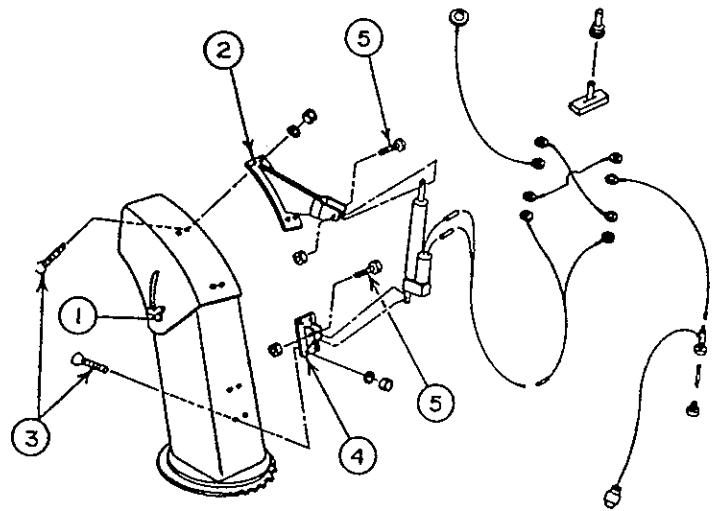

FIGURE 10
- a) Remove the two manual adjustment knobs (fig.10, item 1) and bolts from each side of deflector and replace with two 5/16" x 3/4" carriage bolts, using original nylon washers and two nylon lock nuts, leaving 1/16" play.
- b) Place actuator support bracket (fig.10, item 2) on center of chute deflector, flush with bottom edge of deflector. Using this bracket as a template, drill four 11/32" holes in deflector, and bolt in place with four 5/16" x 3/4" allen flat socket capscrew (fig.10, item 3), lockwashers and nuts, with the capscrew heads inside the chute. Tighten so that capscrew heads sink flush to inside surface of deflector.
- c) Retract actuator rod completely and secure to deflector bracket (fig.10, item 1) and chute bracket (fig.10, item 4) which will be installed in section d next, using two 1/4" x 1 1/4" bolts (fig.10, item 5) and nylon lock nuts. Secure loosely to permit movement.
- d) Open deflector to maximum so that actuator rod retracts completely. Place attachment bracket (fig.10, item 4) on the center rear of chute and using bracket as a template, drill four 11/32" holes in chute. Bolt bracket to chute using four 5/16" x 3/4" allen flat socket cap screw, lockwashers and nuts, with the capscrew heads inside the chute. Tighten so that capscrew heads sink flush with inside surface.